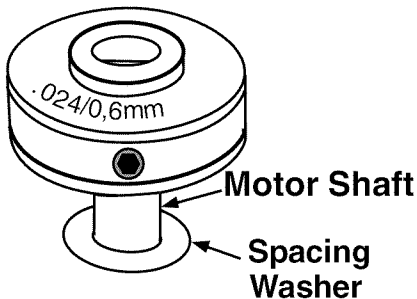

Figure 3. Drive Roller
4. Find the side of the drive roller that is stamped with the same wire diameter as that of the wire being installed (see Figure 3, and if in metric, see DESCRIPTION in the WELDER SPECIFICATIONS section). Make certain the spacing washer is still on the motor shaft and push the drive roller onto the motor shaft, aligning the setscrew with the flat side of the drive shaft. Make sure the side stamped with the desired wire diameter is away from you.